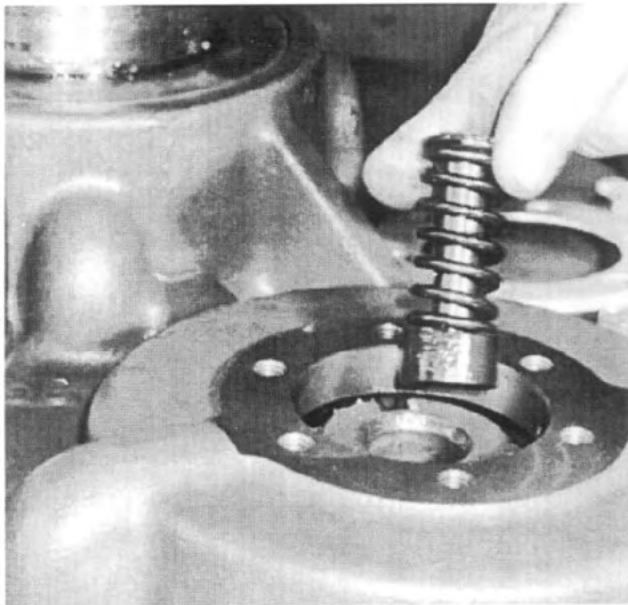

Fig. 112
5. After shim measurements are taken and noted, remove the spacer ring and pump cartridge assembly from the end of the intermediate shaft. Install the pressure relief spring into the cavity at the end of the intermediate shaft. *See Fig. 112.*